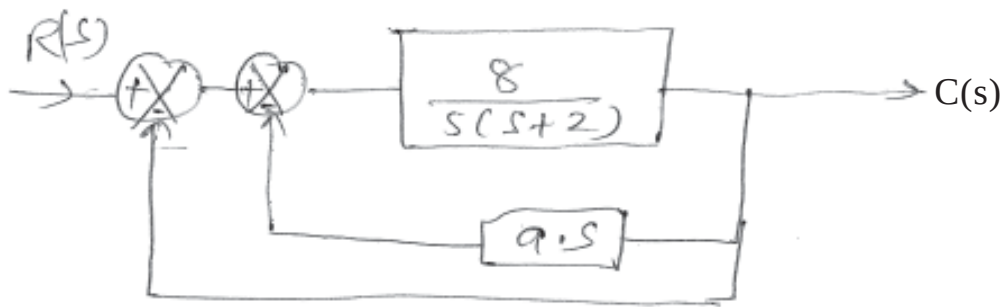

Fig. 4
4. a) The system given in fig. 4 with unity feedback control system with a minor feedback loop. Determine the derivative constant “a” which increases the damping ratio to 0.7. What is the steady state response to unit step input with the setting of “a”.